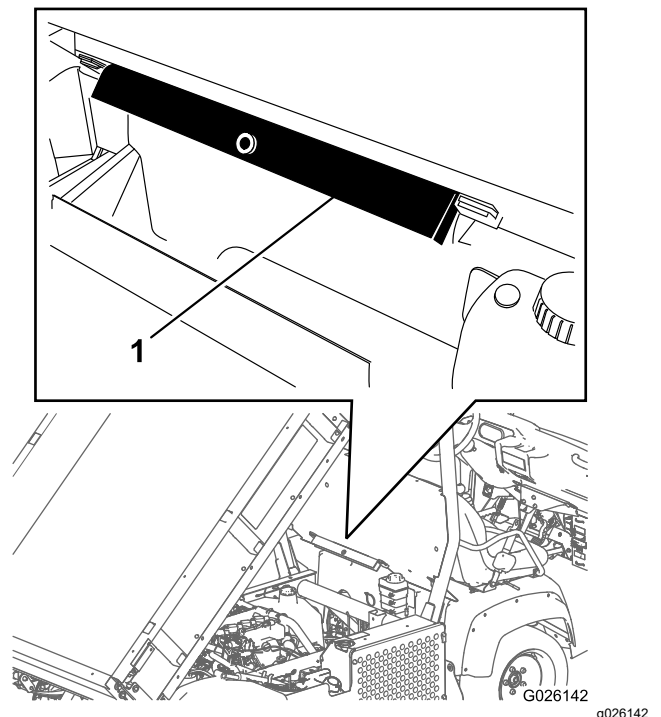

Figure 21
2. Remove the bed support from the storage brackets on the back of the ROPS panel (Figure 21).